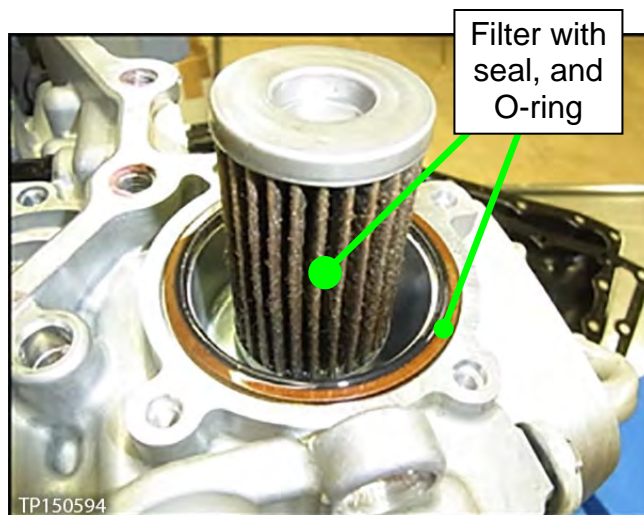

Figure 78
1. Install a new filter with grommet seal and new O-ring (see Figure 78).
- Figure 78 does not show the grommet seal. It is fitted to the bottom side of the filter.